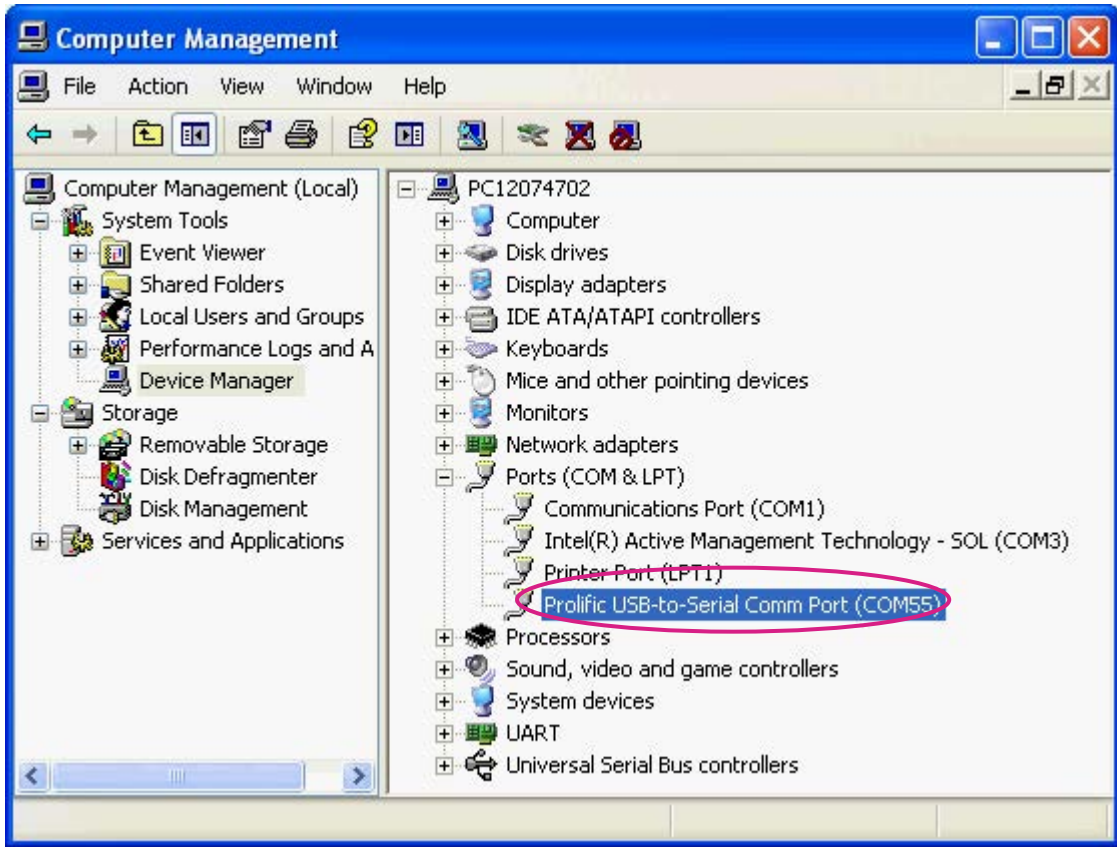

Figure 5. Device COM port for logging on your PC
- 4) In **Device Manager**, navigate to **Ports (COM & LPT)** (see Figure 5). A new COM device should appear. Note the COMx port number of the **Prolific USB-to-Serial Comm Port**. The COM port can now be used to receive system logs through the UART interface on the LinkIt 2523 HDK.